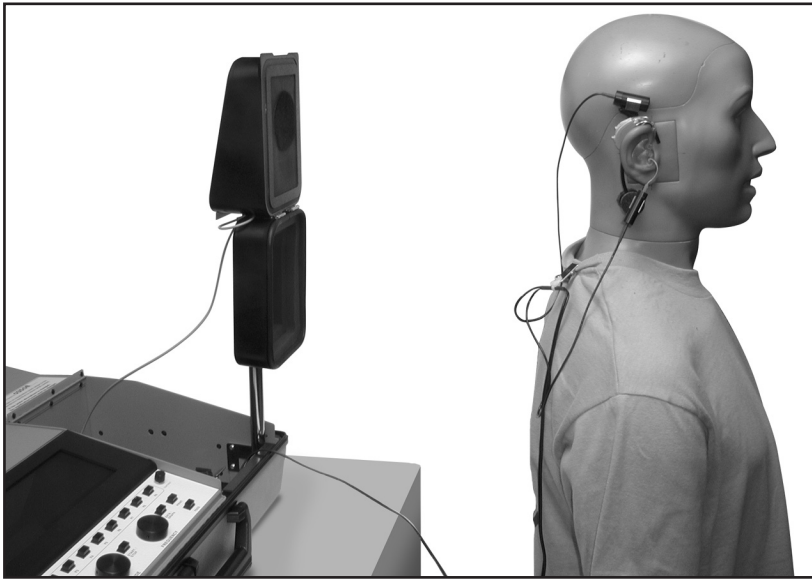

Figure 5.11.1—Reverse measurement positioning for directional test
8. Turn the patient around so the speaker is pointed towards the "null" spot of the hearing aid. For some aids, this is 180° . For other aids, it might be a different angle. Alternately, if you are using an external speaker on a swing arm, you can swing the speaker around to the back of the patient. Maintain the distance from the patient and the speaker that you used for leveling. See Figure 5.11.1.